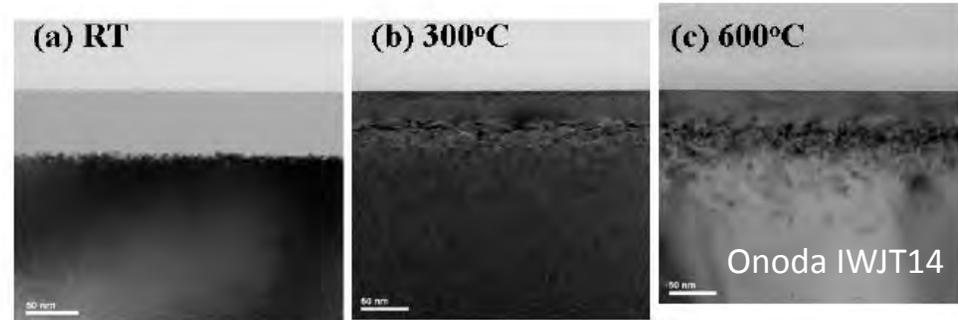

Fig. 3 Cross sectional TEM results of As⁺ implanted at (a)RT, (b)300°C and (c)600°C.
Fig. 3. KMC simulations for As 5keV implant with 6 different implant temperatures, (a) -50 °C, (b) Room Temperature (RT), (c) 100 °C, (d) 200 °C, (e) 300 °C, and (f) 400 °C, respectively. As implant temperature is increased, the depth of the amorphous-Si layer is reduced. {311} defects are formed during implant at higher implant temperature.